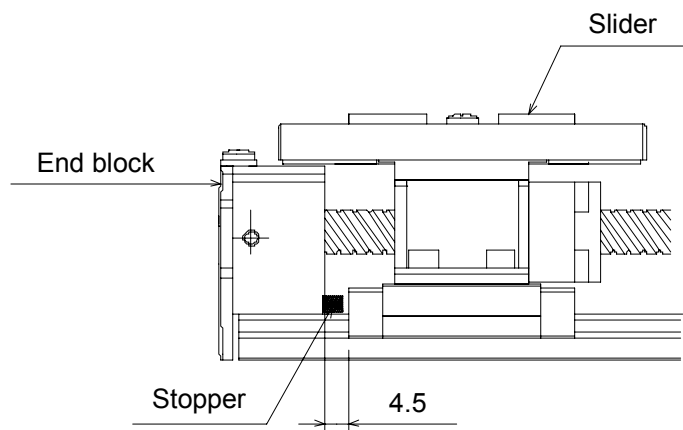

Fig. 5.5–1
- (1) Specify "1" for the motor revolving direction of Parameter 2.
- (2) Adjust the home position. As in Para. 5.4 above, the position 4.5 mm away from the end block should be the home point. (See Fig. 5.5–1.)